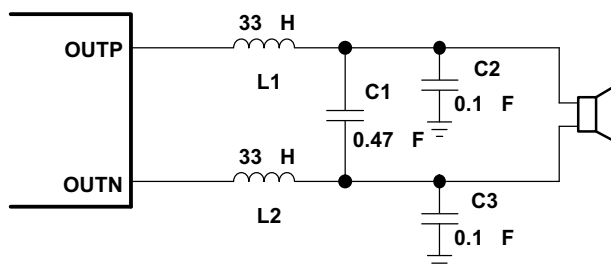
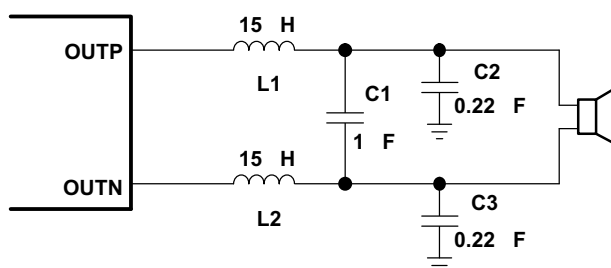

Figure 27. Typical LC Output Filter, Cutoff Frequency of 27 kHz, Speaker Impedance = 8  $\Omega$
Figure 28. Typical LC Output Filter, Cutoff Frequency of 27 kHz, Speaker Impedance = 4  $\Omega$
Using the LC filter in Figure 27, the TPA3101D2 EMI EVM passed the FCC Part 15 Class B radiated emissions with 21 inch speaker wires. Quasi-peak measurements were taken for 4 configurations, and the TPA3101D2 EMI EVM passed with at least a 5.6-dB margin. A plot of the peak measurement for the horizontal rear configuration is shown in Figure 30.
- Output filter—The ferrite EMI filter (Figure 29) should be placed as close to the output terminals as possible for the best EMI performance. The LC filter (Figure 27 and Figure 28) should be placed close to the outputs. The capacitors used in both the ferrite and LC filters should be grounded to power ground. If both filters are used, the LC filter should be placed first, following the outputs.